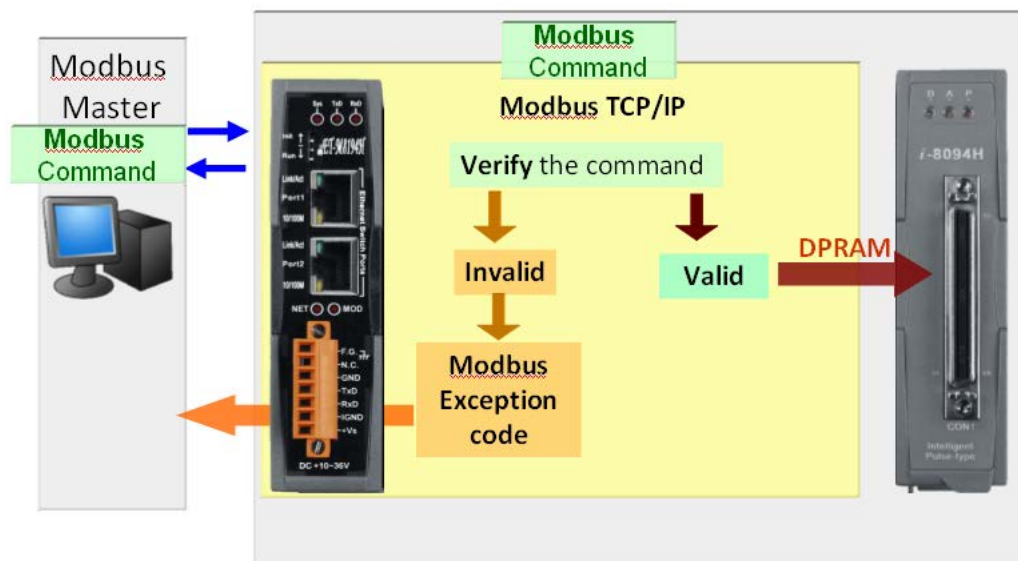

Figure 1: ET-M8194H module in slot 0 of the motion device
• The ET-M8194H module (Figure 1) in slot 0 is the unit which is mainly responsible for the Modbus communication between the Master and Slave. The main task of the module is to verify and filter every command arriving at its TCP/IP port according to its current state and consequently decide whether to transfer the command to the i-8094H or, if the command is not supported by the respective state, ignore the command and respond to the Master with a Modbus exception code.